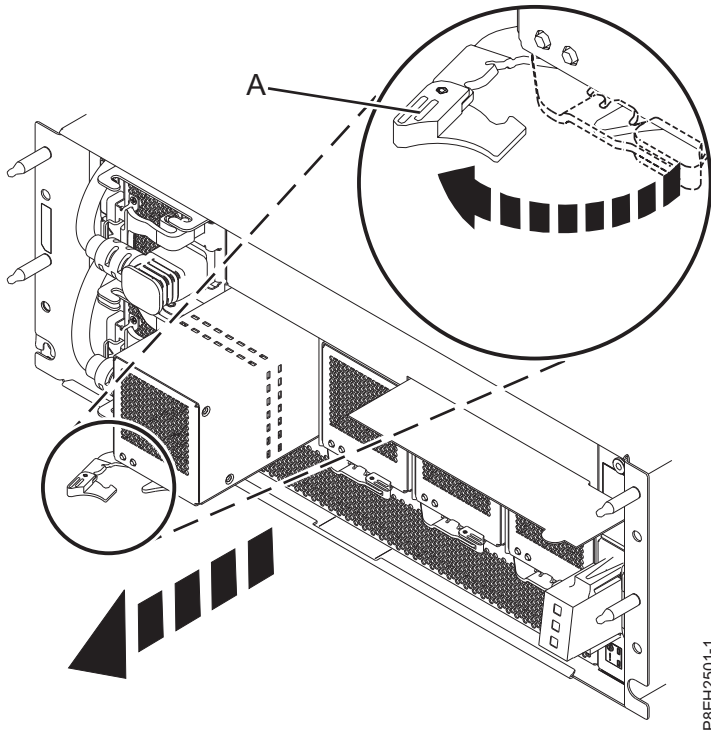

Figure 4. Removing the fan from the EMX0 PCIe3 expansion drawer
2. Rotate the fan handle (A) in the direction shown in Figure 4 to unlock the fan from its slot.
3. Hold on to the fan handle (A) and by using your hand to support the bottom of the fan, pull out the fan from its slot. See Figure 4.